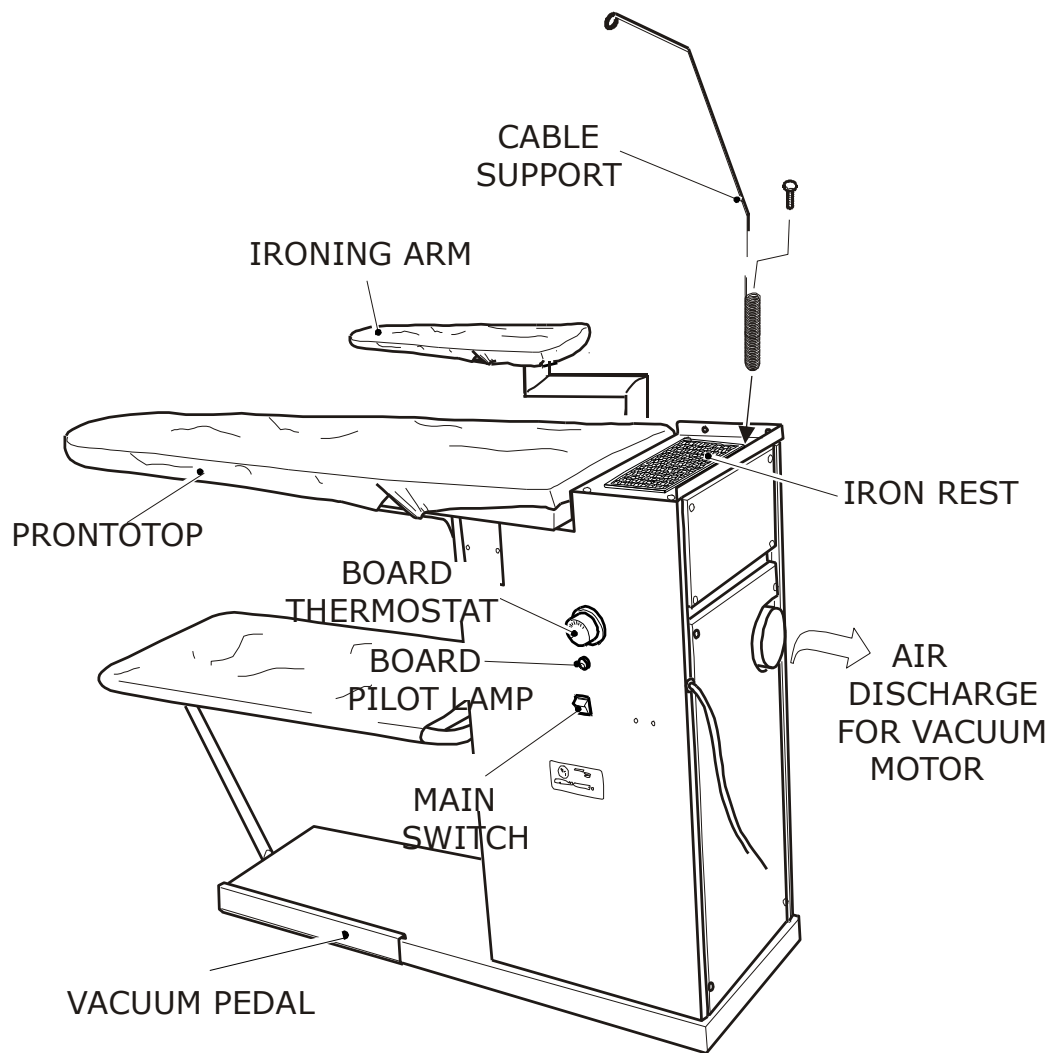

FIG. 1
2. Remove KS200/D from the box and fix the cable support to the ironing board (**fig. 1**).
2. Turn on the main switch (**fig. 1**), adjust the thermostat knob on 80/90° C (**fig. 1**): when the board pilot lamp switches off, the board is ready for the ironing.
1. Run the iron on garments, pressing both the red steam button (**fig. 3**) and the suction pedal at regular intervals (**fig. 1**). In order to dry the garments, we advise to keep the foot on the suction pedal a bit longer. For a good ironing, we advise you to keep the thermostat on "cotton" position.
It is recommended to replace the padding (**fig. 1: prontotop**) every 320 hrs. of operation or maximum every 3 months. This operation must be carried out when the machine is off and cold. **N.B.:** the padding can be washed.
2. Estrarre il tavolo mod. KS200/D dalla scatola e fissare l'antenna (fig. 1).
2. Accendere l'interruttore generale (fig. 1), ruotare la manopola del termostato su 80/90° (fig. 1): quando la spia del piano si spegne il tavolo è pronto per la stiratura.